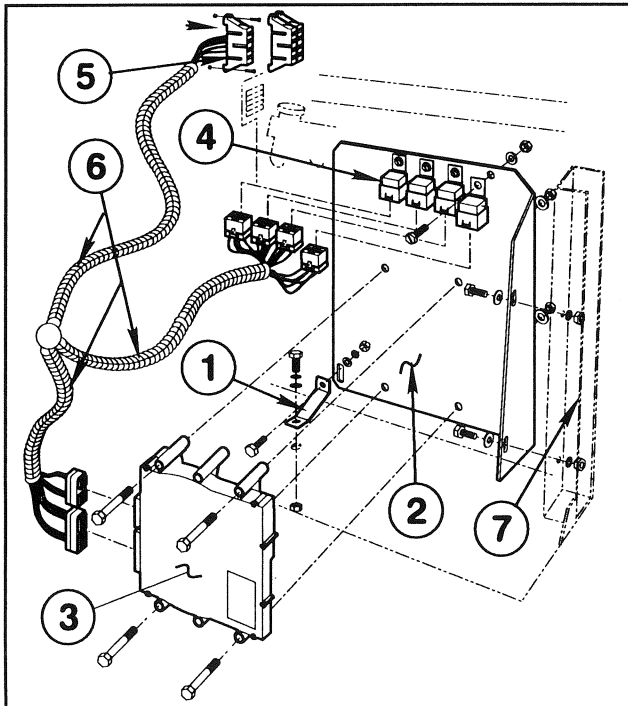

FIG. 12
3. Mount the Support Bracket to the ECU Bracket using (1) 5/16 NC x3/4" cap screw, flat washer, lock washer, and hex nut. See FIG. 12
4. Mount ECU to Bracket using four (4) 1/4 NC x 2-1/2" hex hd cap screws, lock washers and hex nuts. See FIG. 12
5. Mount four (4) Relays using 1/4 NC x 5/8" hex hd cap screws, lock washers and hex nuts. See FIG. 12
6. Remove fasteners securing Vehicle Fuse Block(s). Slide Sonic Boom™ Fuse Block together with Vehicle Fuse Block(s) and remount all Fuse Blocks to Vehicle using fasteners previously removed. See FIG. 12
8. Mount ECU Bracket to Upright Post, using two (2) 5/16 NC x 3/4" cap screws, flat washers, lock washers, and hex nuts. See FIG. 12
10. Secure Support Bracket to floor, using a 5/16 NC x 3/4" cap screw, flat washer, lock washer, and hex nut. See FIG. 12